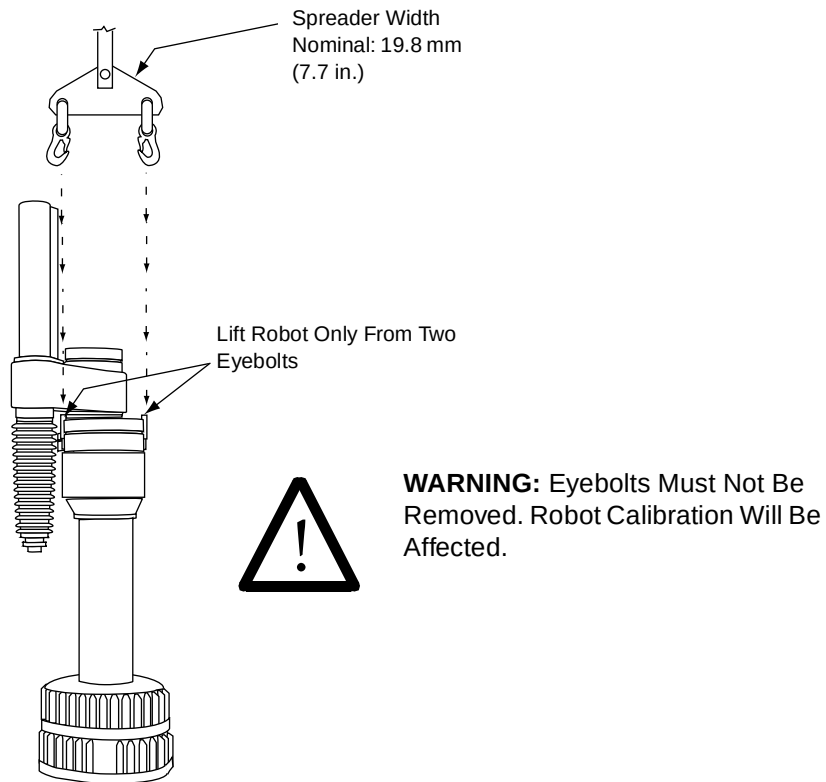

**Figure 3-6. Lifting Robot With Eyebolts**
1. Connect the hydraulic lift to the eyebolts at the top of the robot by means of a dual-leg sling; see Figure 3-6. Take up any slack, but do not lift the robot.